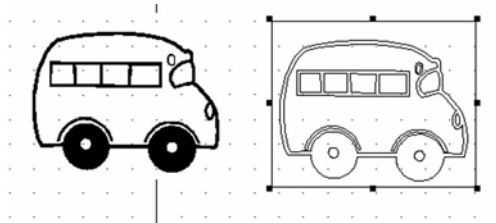

Figure 113
- 1 Delete the original bitmap. To do so, click the **Select Elements** tool, click on the original drawing, and then press the `DELETE` key on your keyboard. The scanned image remains on your screen. See figure 113.